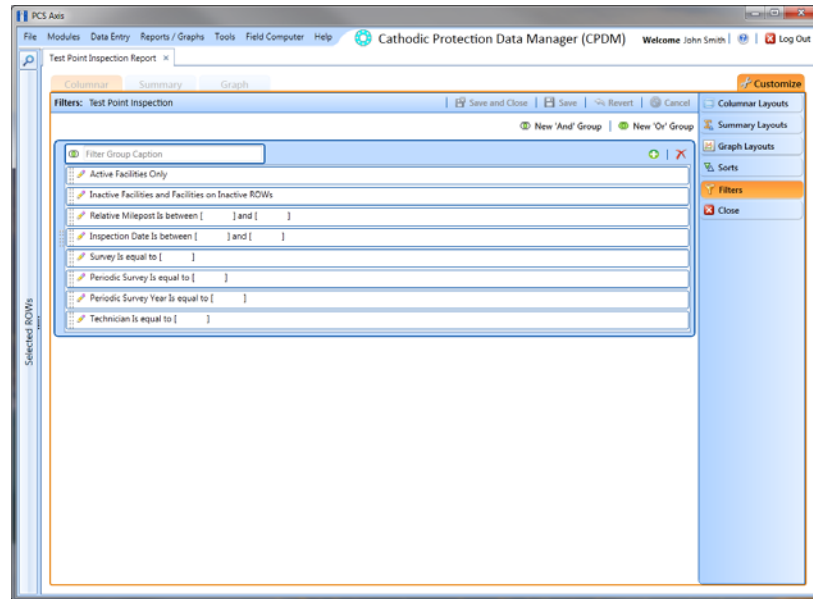

Figure 14-46. Filters
- 3 Click the **Customize** tab  then the **Filters** button  to open the *Filters* page (Figure 14-46).